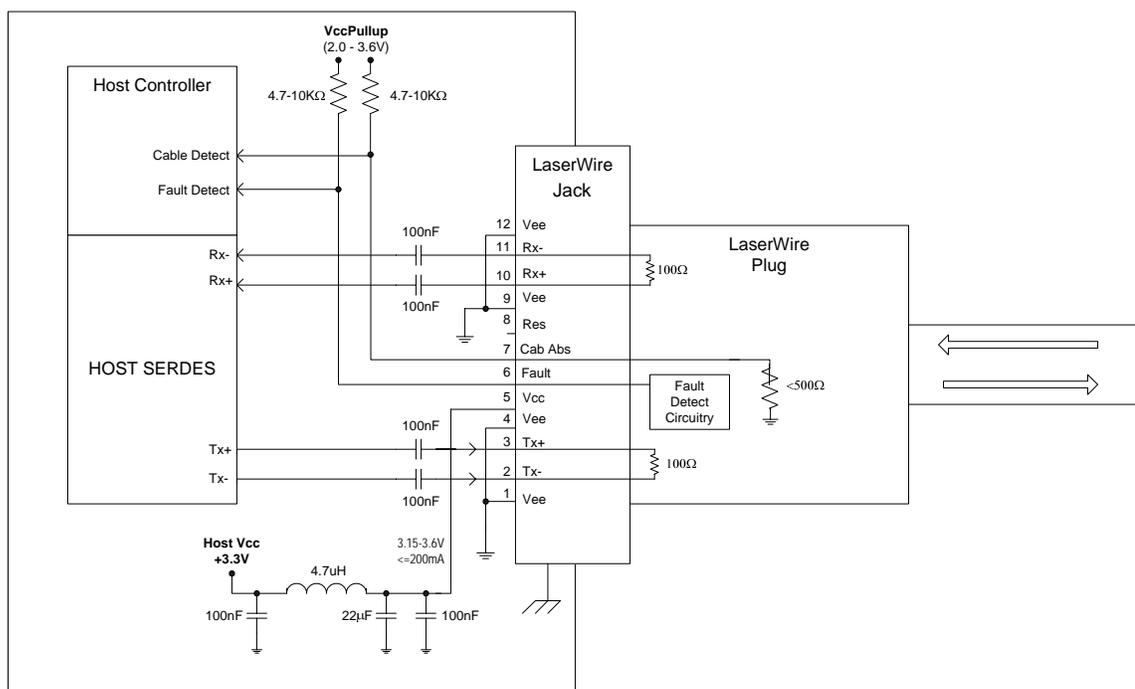

Figure 2. Recommended host board configuration showing power supply filtering, AC coupling caps, and status pull-up resistors.
- DC coupled internally. See Figure 2 of Laserwire (P/N FCBP110LD1Lxx) datasheet for input eye mask requirements. Self biasing 100 Ohm differential input. **Must be AC coupled on HOST**